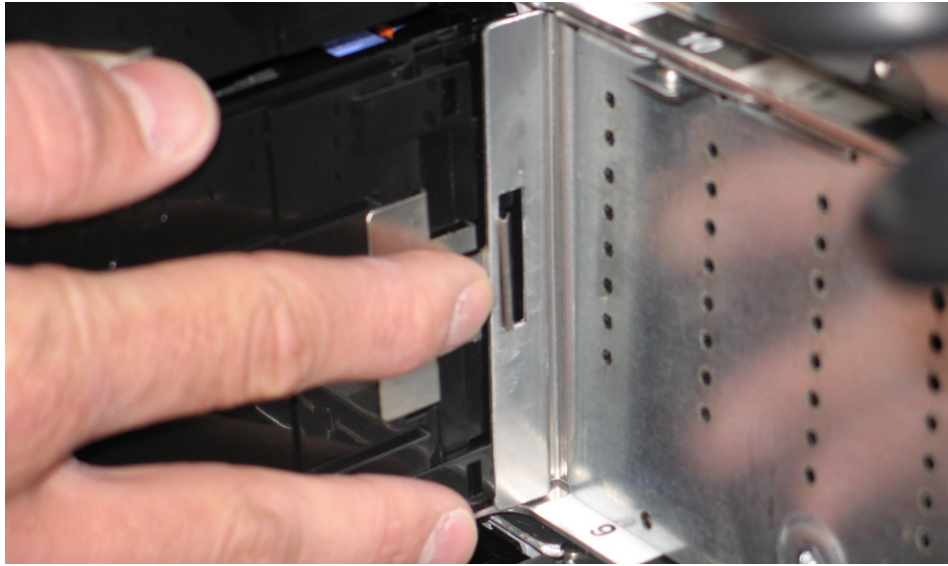

Figure 15 OBE Sidewall Assembly
STEP 26 Pull the OBE handle/sidewall assembly slightly outward to separate it from the CEC drawer. See Figure 15. Take care not to bump the frame faces of the fiber optic connectors against any surface, including body parts, to prevent contamination or damage on the fiber endfaces. NOTE: Do not remove more than one CEC drawer per OBE at a time - the OBE must be supported by at least 3 CEC drawers while it is installed in the system.